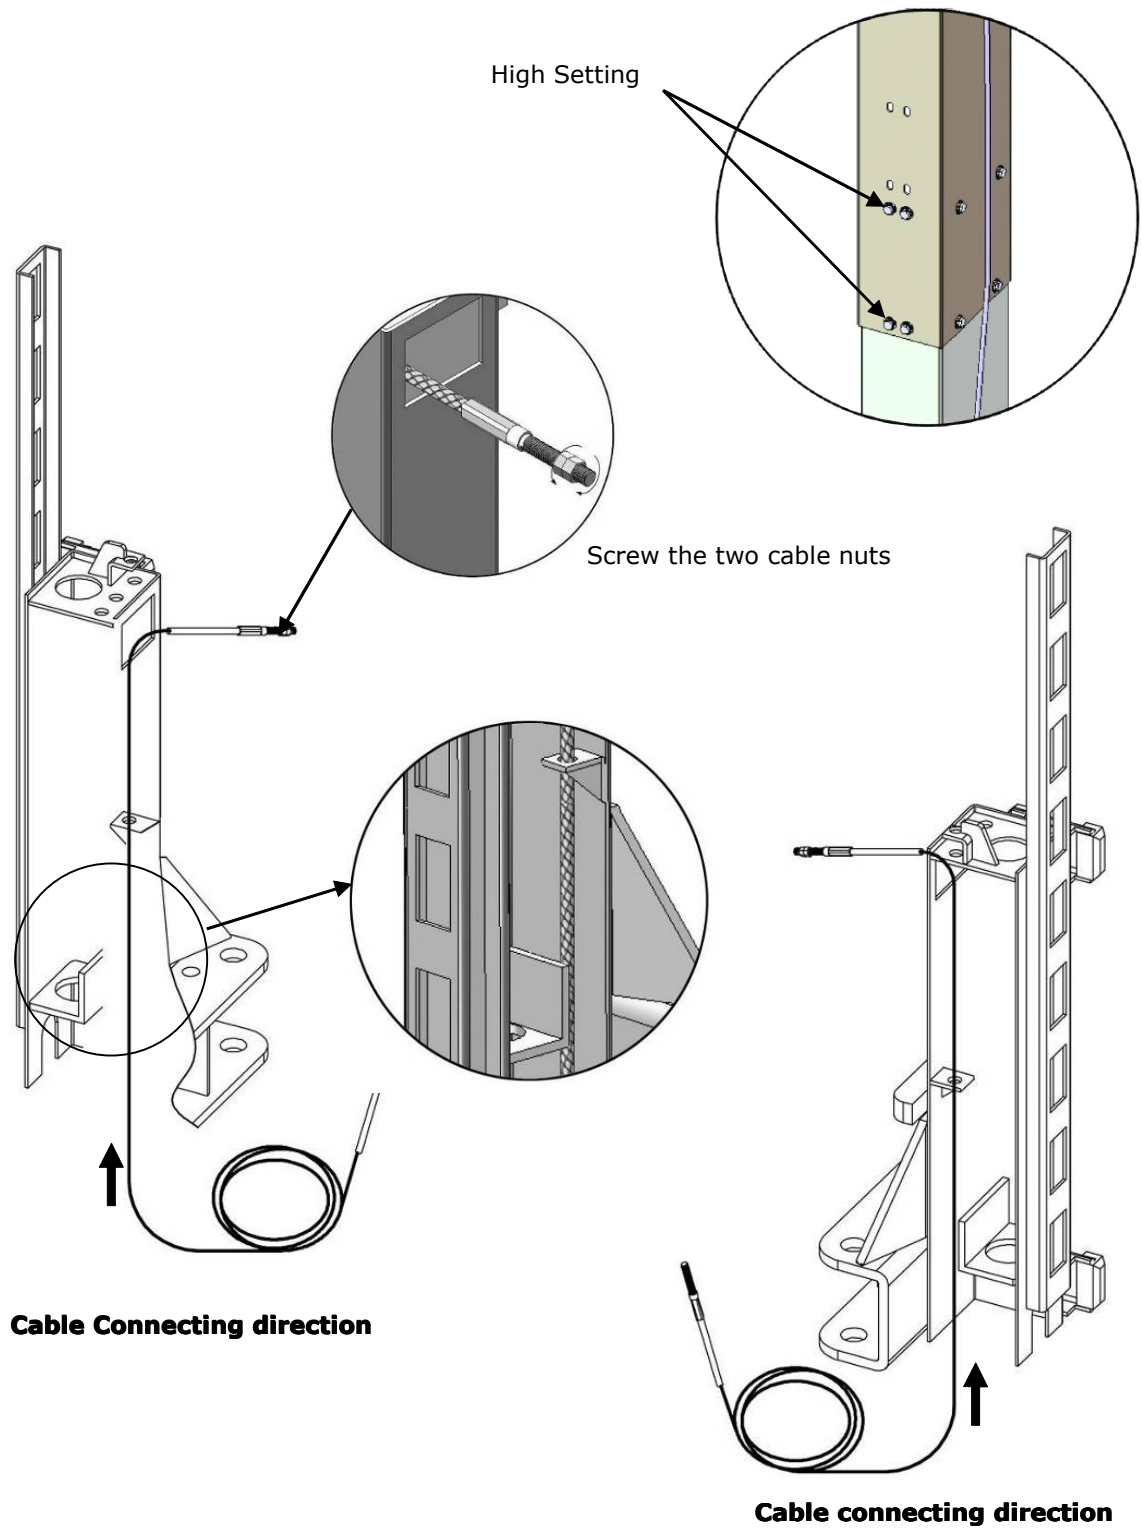

Fig. 24
2.1. Cable pass through from the bottom of the carriages and be pulled out from the open of carriages, then screw the two cable nuts **(See Fig. 24).**